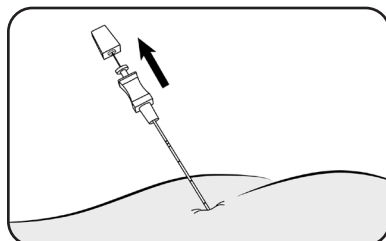

Figure 5. Remove the stylet from the foramen needle.
- Remove the stylet from the foramen needle (**Figure 5**).